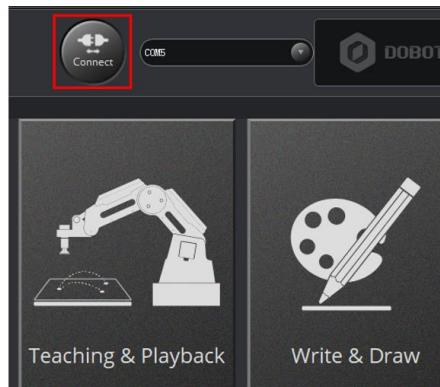

Figure 2.15 Click Connect
**Step 2** Click **Connect** on the DobotStudio page, as shown in Figure 2.15.